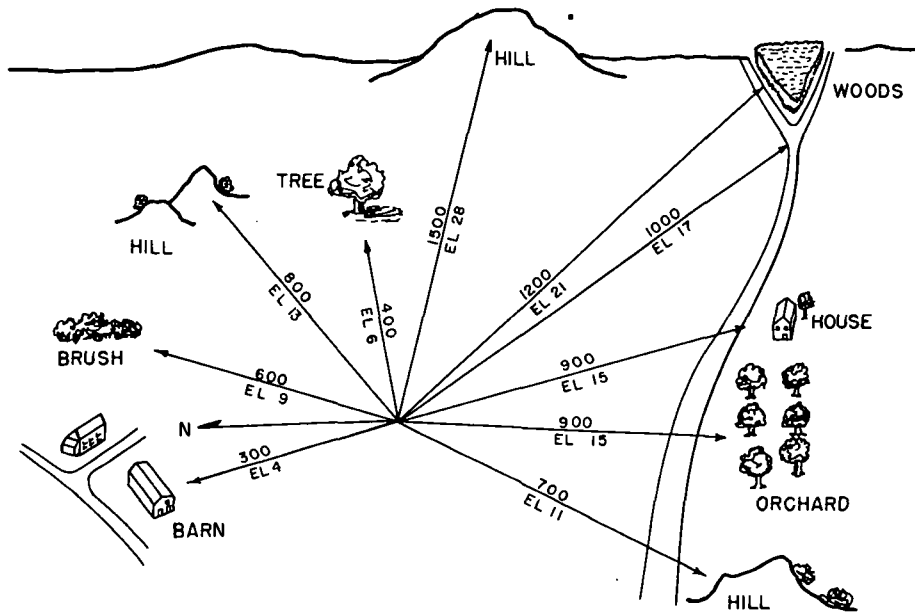

Figure 8. Range card for direct laying.
- (1) Measure or estimate the ranges to prominent terrain features and likely avenues or approach.
- (2) Establish reference points as required.
- (3) Prepare a range card (fig. 8).
- (4) As time permits replace estimated ranges with more accurate ranges obtained by pacing, taping, speedometer, maps or survey.